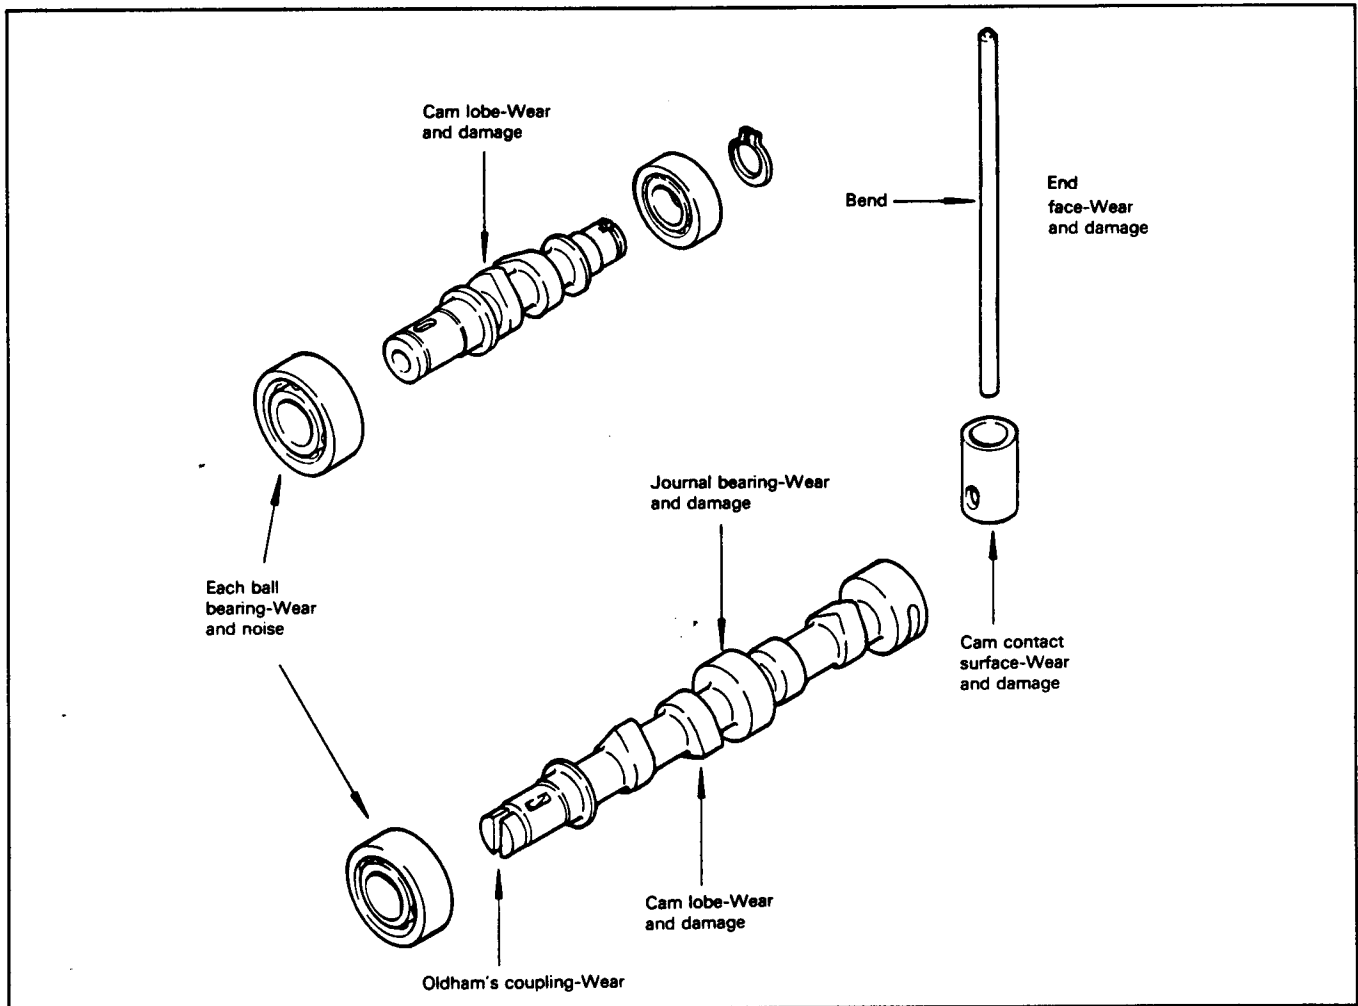

Figure 80
7. Inspect the camshaft parts (Fig. 80). Replace any parts that are worn or damaged.